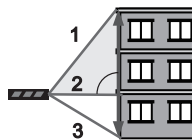

Fig. 2,
- The double Pythagorean theorem function  is based on a similar principle and enables the determination of a building's height by measuring the sides marked using numbers 1,2,3 in fig. 2, where the measuring device is not level with the foot of the building, e.g. when mounted on a tripod.
shing) sides by pressing button  and the result will be the length of the longest cathetus of the right-angled triangle as shown in fig. 2., which will be calculated from the three measured sides, with the result shown in the bottom row of the display.